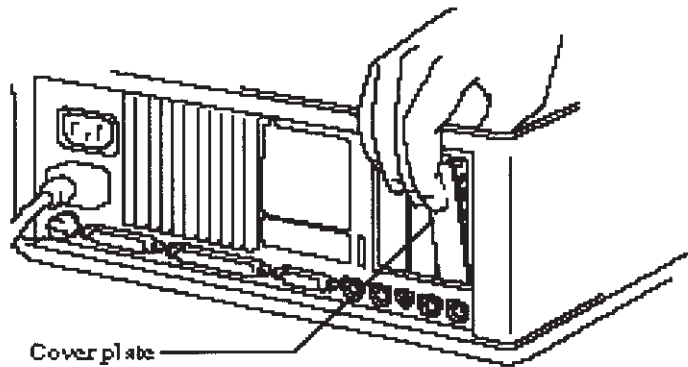

Figure 3: Remove the backplate for the open NuBus slot.
2. Locate an open NuBus slot near the internal hard disk, preferably the rightmost slot. Remove the back plate corresponding to the open NuBus slot (see Figure 3).